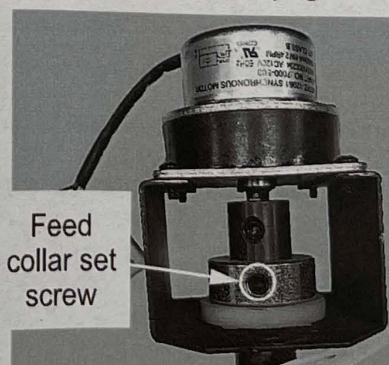

Figure 6
4. Loosen the set screw that secures the feed collar that hold the bearing in place (**Figure 6**).